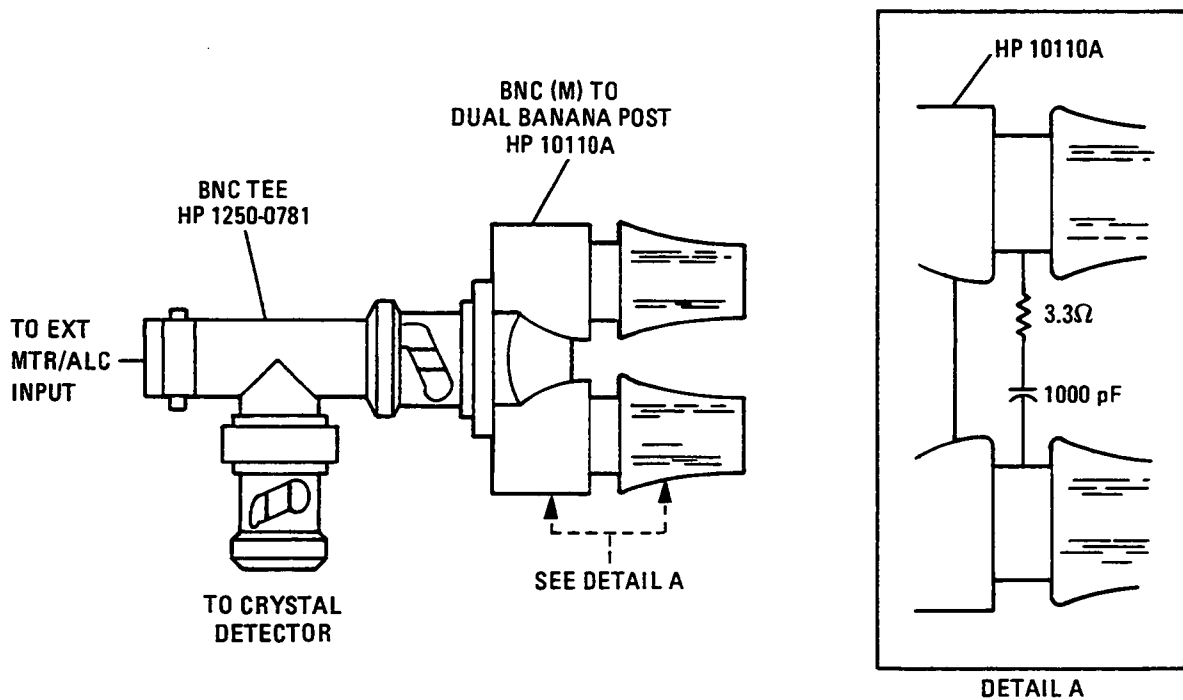

Figure 3-9. 10 to 50 MHz RF Feedthrough Dampening
**NOTE:** Between 10 and 50 MHz, RF feedthrough as high as 3 dB may be observed on the envelope of the video output. During external leveling between 10 and 50 MHz, the RF feedthrough can be damped out by inserting the circuit shown in Figure 3-9 in the line to the RF plug-in EXT ALC INPUT of the RF plug-in.